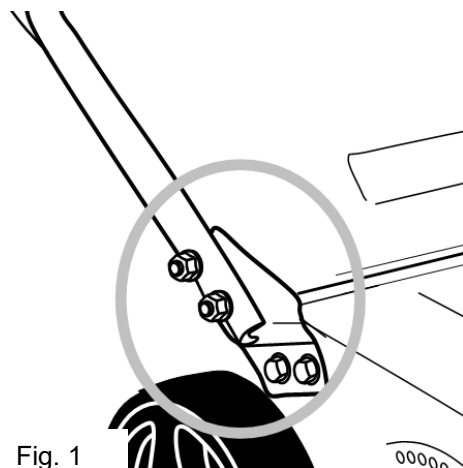

Fig. 1
1. Raise and secure the lower part of the handle with bolts and nuts as shown in Fig.1.